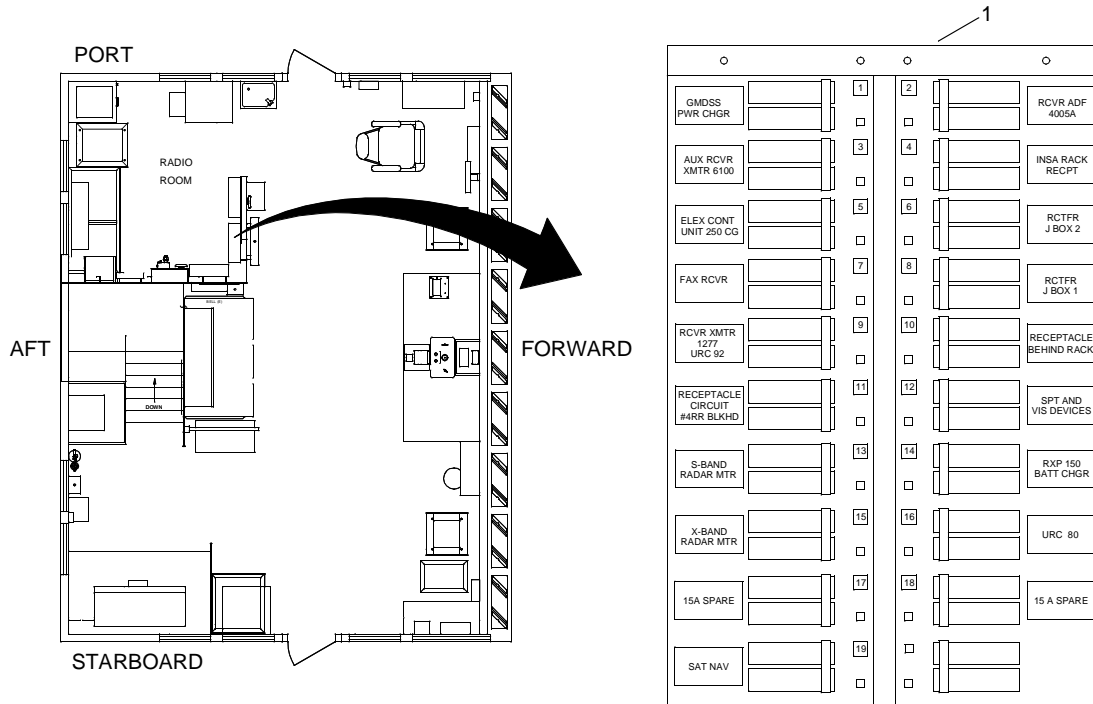

Figure 13. Electrical Distribution Panel EP103 Location
The electrical distribution panel EP103 (figure 13, item 1), located in the radio room on the forward bulkhead, consists of an AC circuit breaker panel that provides circuit breaker protection for the pilothouse electrical equipment.